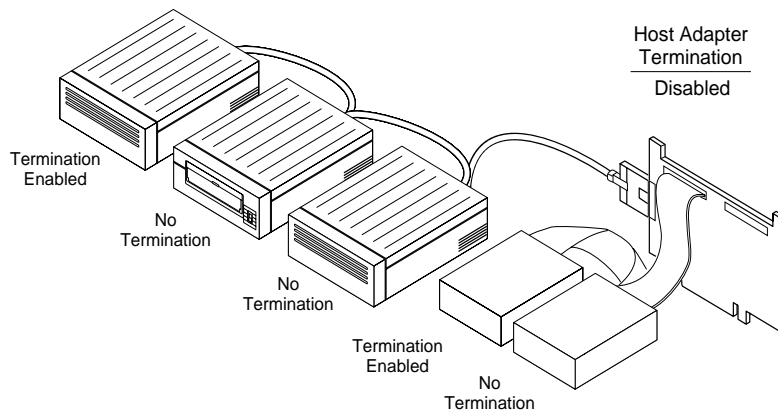

Figure 2-12. Internal and External Devices on SCSI Channel A
- Change the host adapter termination to *Disabled* if you attach SCSI devices to both of the Channel A connectors, as shown in Figure 2-12. In this configuration the host adapter is in the middle of the SCSI bus.